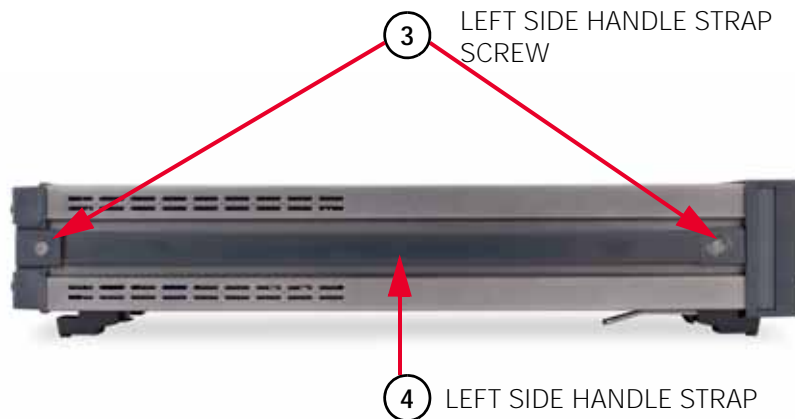

Figure 3-2 Remove/Install left side handle
- 5 Refer to Figure 3-2. Turn the instrument so its left side faces you.
- 17 Refer to Figure 3-2. Reinstall the left side handle strap. Use the #1 Pozidriv to reinstall the side handle strap screws.